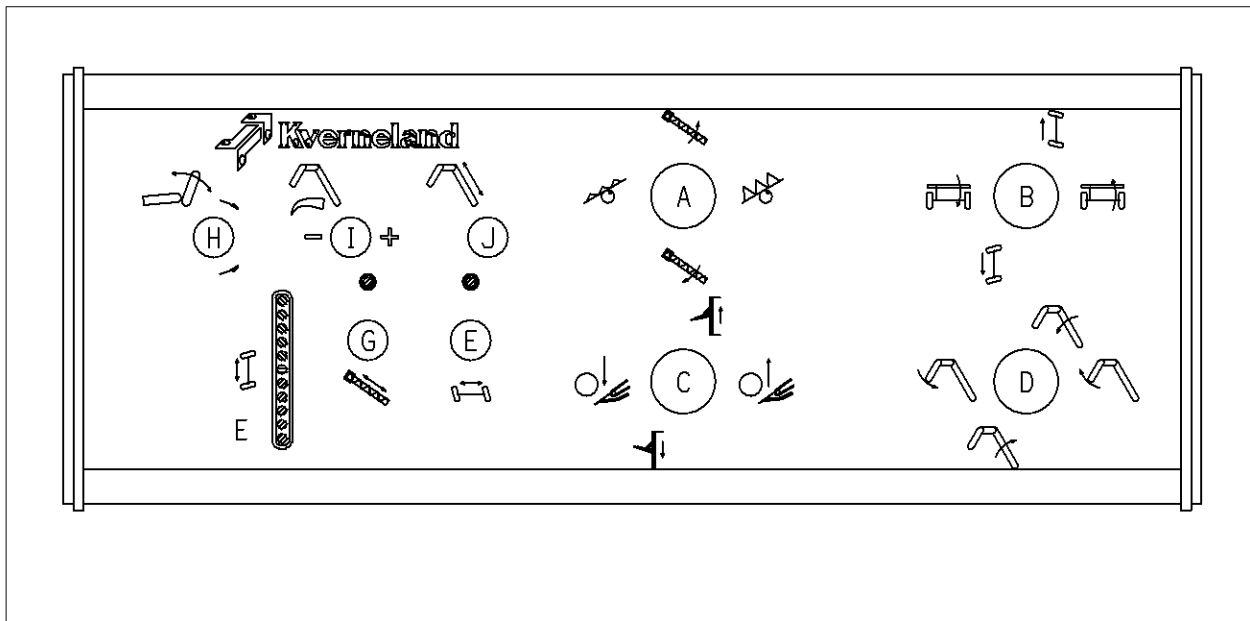

Fig. 36
- Control panel tractor (Fig. 36)
(Fig. 36). Light in the diodes indicates power supply. The panel is prepared for operating extra functions, even if the machine is not equipped with this functions.